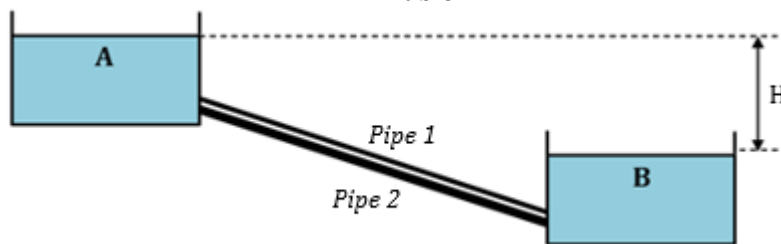

Figure 4
18. Figure 4 shows water flow from tank A to tank B through two parallel pipes. The length and diameter of the pipes are given in table 3. Calculate the flow rate in pipe. Given friction factor is 0.008. Consider all head losses.